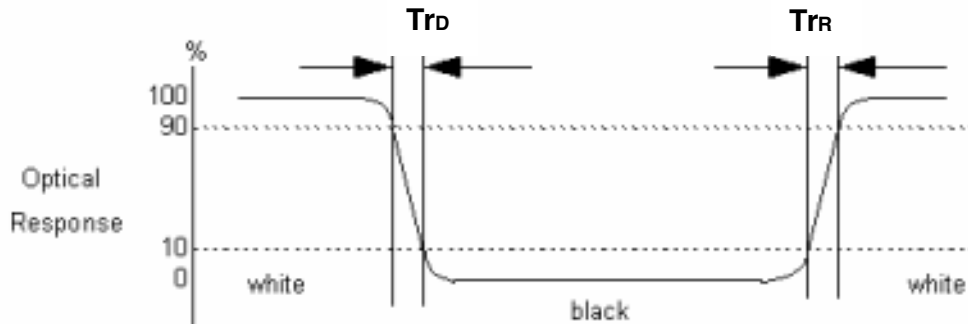

**Fig.4-2 Optical measurement point**
2. Surface luminance is luminance value at point 1 across the LCD surface 50cm from the surface with all pixels displaying white. From more information see Fig. 4-2. When  $V_{DDB} = 24V$ ,  $I_{DDB} = 6.4A$ .  $L_{WH} = L_{on1}$ , Where  $L_{on1}$  is the luminance with all pixels displaying white at center 1 location.